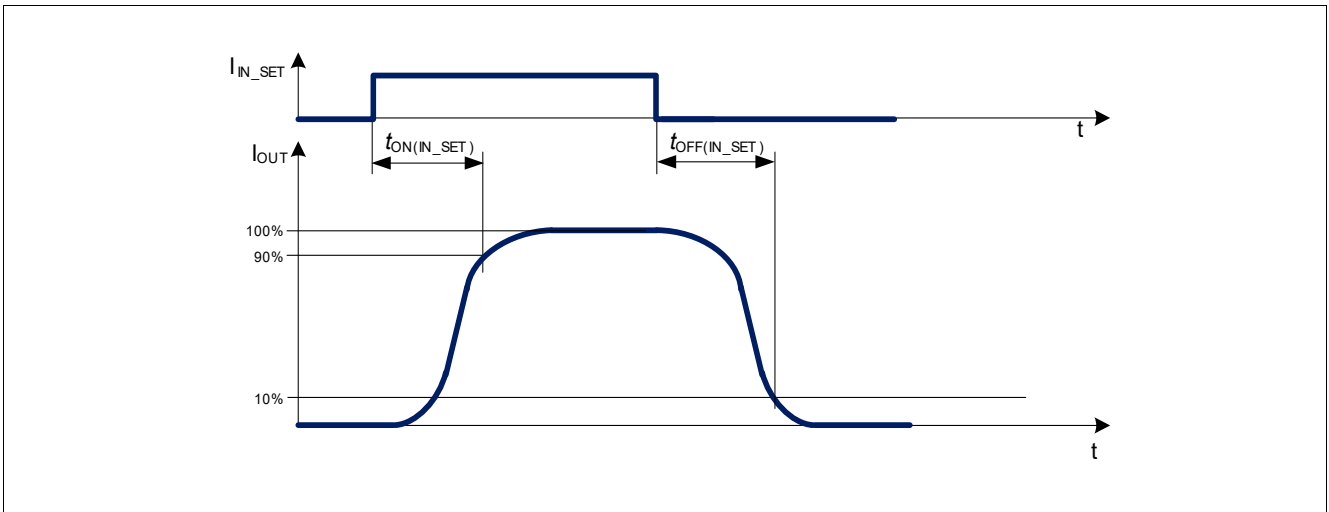
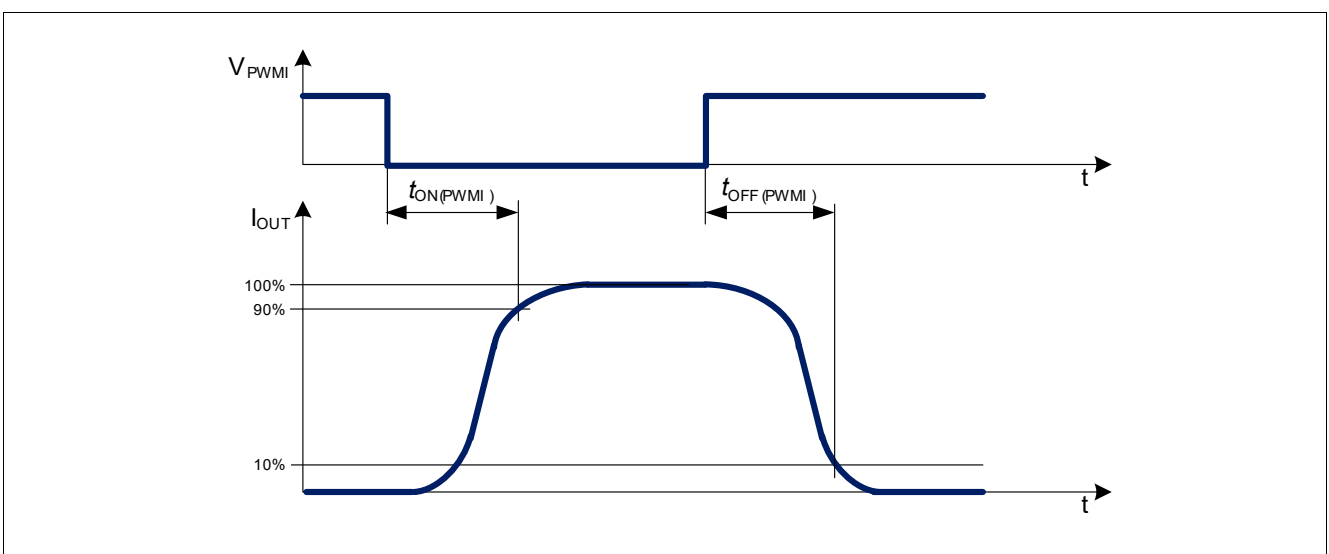

Figure 14 IN_SET turn on and turn off delay timing diagram
Figure 16 PWMI turn on and turn off timing diagram
In the following diagram (Figure 14, Figure 16) the influences of inputs on output activation delays are shown.
2) Refer to Figure 14.
4) Refer to Figure 16.